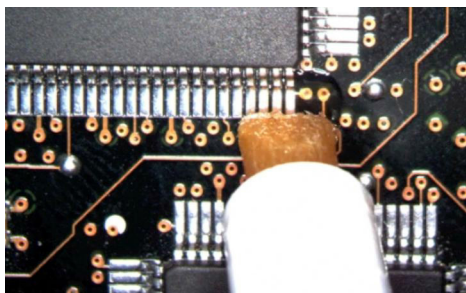

Figure 47 Applying Flux
- 1 Apply flux to your target leads as shown in **Figure 47**.